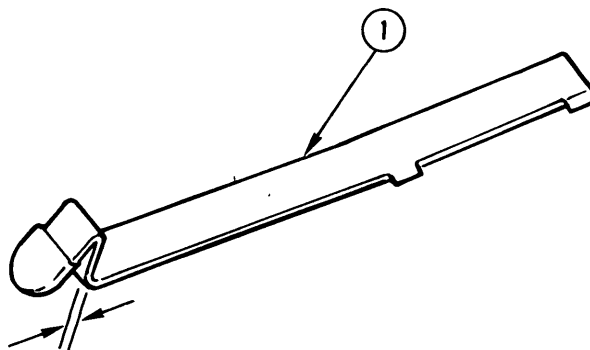

Figure 3. Flat Spring
Spring can be identified by thickness. The new spring (1) is 0.074-inch thick; the old spring (1) is 0.050-inch thick (figure 3).